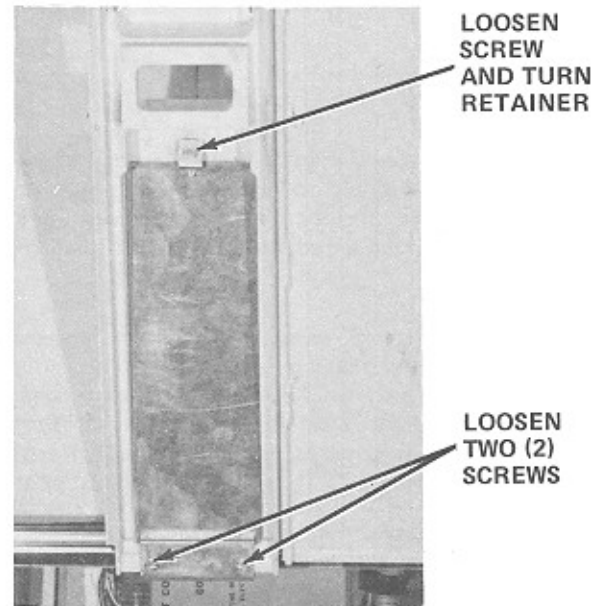

FIGURE 2-3. INSTALLATION LICENCE CARD
- Loosen two screws holding bottom retainer as shown in figure 2-3.